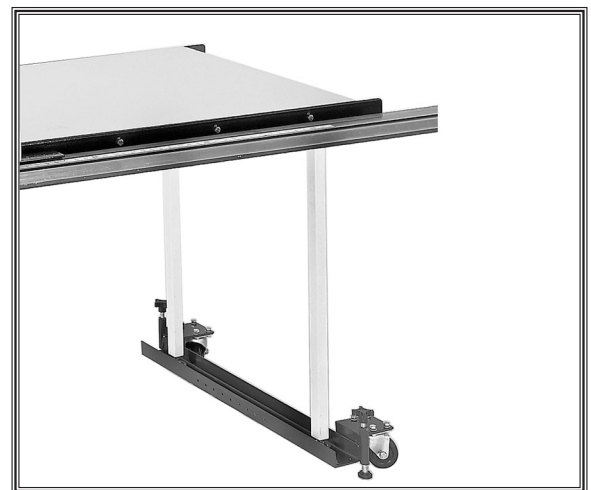

Figure 4. Extension table legs in channel.
7. Place the support channel assembly under the extension table legs, making sure the swivel casters face out, then center the legs along the length of the support channel, as shown in **Figure 4**.